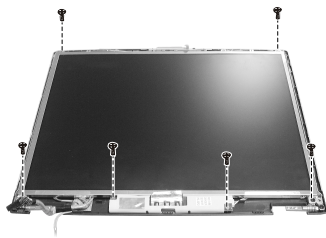

Figure 2-31 Remove the LCD panel
3. Remove six screws fastening the LCD panel. And lift it up. (Figure 2-31)